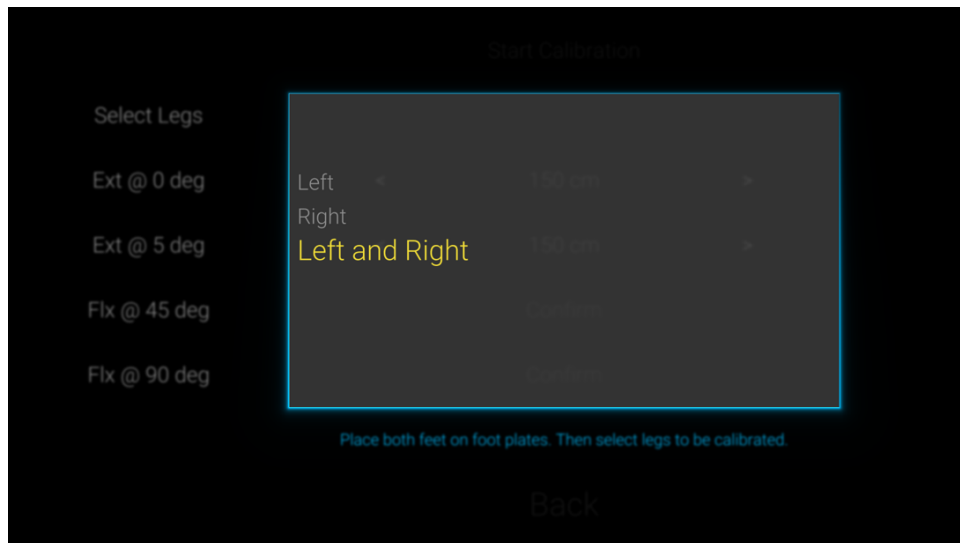

**Figure 17:** Expert Calibration leg selection screen
- First select which leg should be used as a reference for the calibration, the left leg, the right leg, or the average between the left and right anatomic knee angles of the legs (Fig. 17). A good rule of thumb is to use the dominant (healthy) leg.